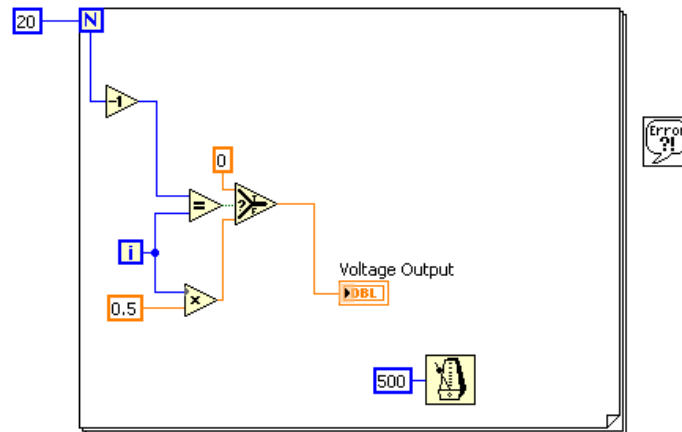

Figure 10.16
1. Display and examine the block diagram (Figure 10.16).